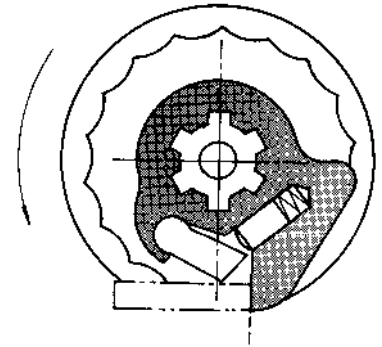

Fig. 74 In kicking position
1. The kick shaft and ratchet arm turn counter-clockwise as shown in Fig. 74. The pressure of the ratchet spring meshes the ratchet with the kick gear. (Fig. 74)